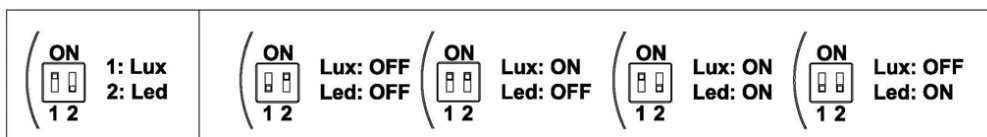

Figure 2.2. Double micro-switch positions
**Double LED guide (1):** it is a light guide with a double aim, which allows visualizing the LED flashes when the device detects presence (red flashes) and also allows the light to enter through it in order to carry out the luminosity sensor function.
**Double micro-switch (4):** located in the rear side of the detector, this micro-switch allows enabling and disabling the LED that indicates presence and linking the luminosity sensor to the channel that controls the luminosity (Lux). The available combinations are shown in Figure 2.2.
It is possible to connect two motion detectors in parallel to the same device input. With this type of connection, it is possible to **increase the detection area**, provided that the luminosity sensor of one of them is in the position OFF (switched-off). See figure 2.2.